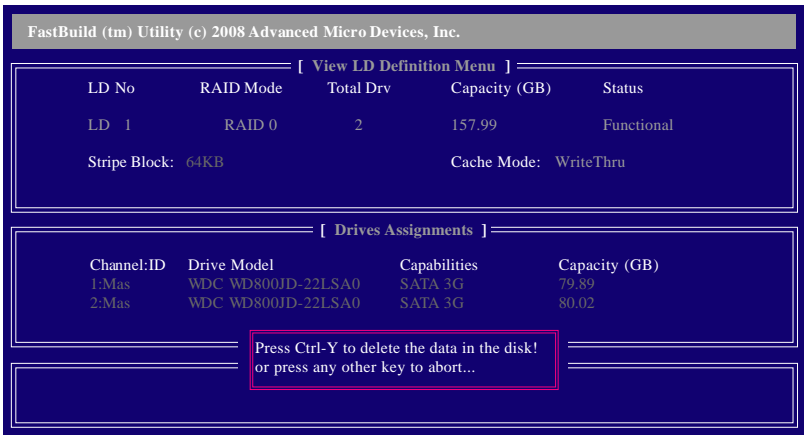

Figure 9
2. The **View LD Definition Menu** will appear (as shown in Figure 9) showing which drives are assigned to this array. Press <Ctrl>+<Y> if you are sure to delete the array or other keys to abort.